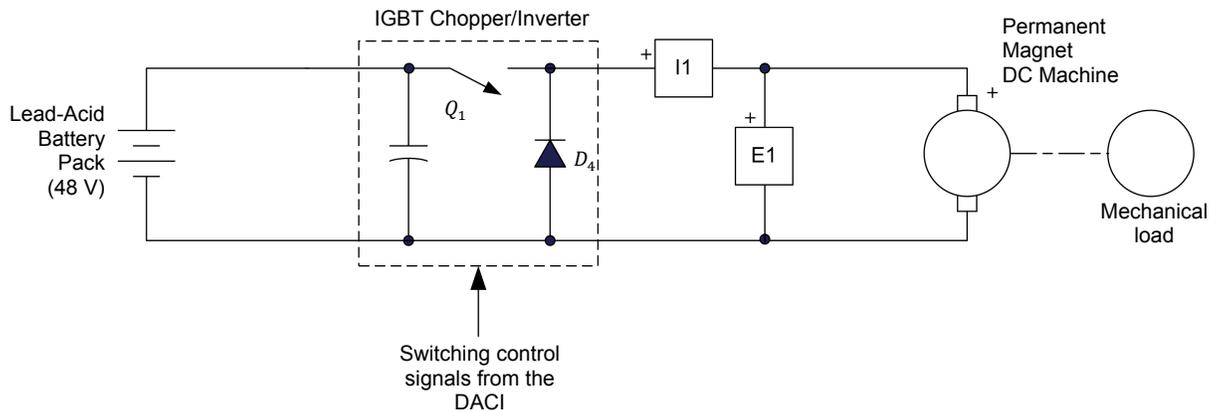

Figure 6. Basic PWM dc motor drive (buck chopper dc motor drive).
10. Set up the circuit shown in Figure 6. Use the **Lead-Acid Battery Pack** as a fixed-voltage dc power source for the basic PWM dc motor drive.